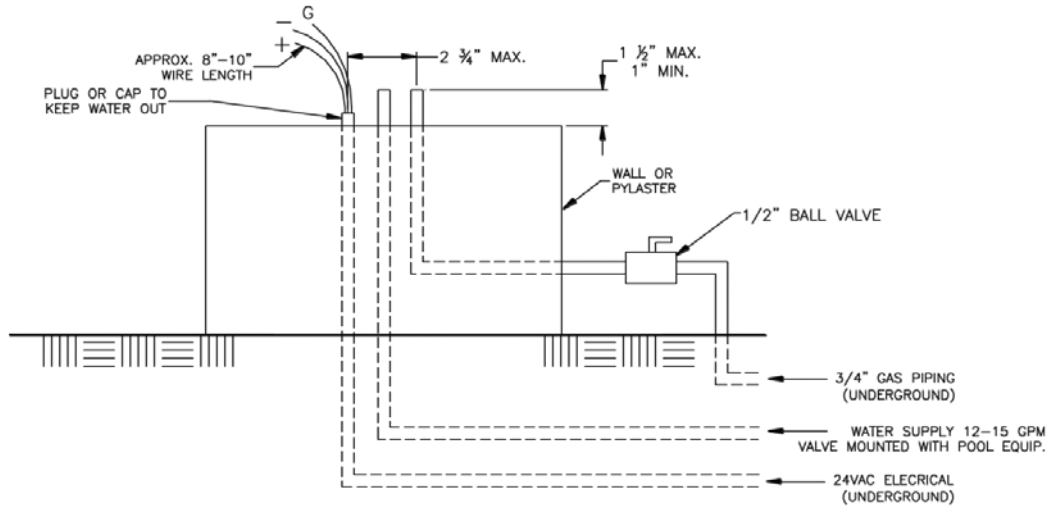

Figure 4: Piping
3. The piping must be reduced to $\frac{1}{2}$ " NPT or larger at each bowl, as shown in Figure 4.
Note: The gas, electrical, and water connection at each bowl must be located at the center of each bowl. The connections must be installed as shown in Figure 4.
1. The height of the flame can be adjusted at each burner by opening or closing the $\frac{1}{2}$ " gas valve or keyed valve as shown in Figure 4.